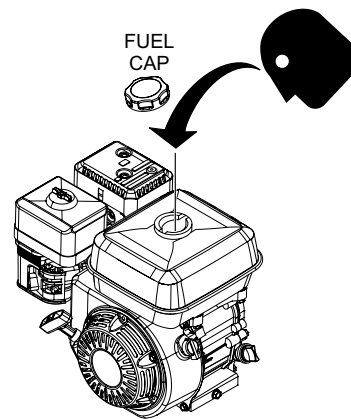

Figure 6. Fuel Check
1. Visually inspect (Figure 6) to see if fuel level is low. If fuel is low, replenish with unleaded fuel.